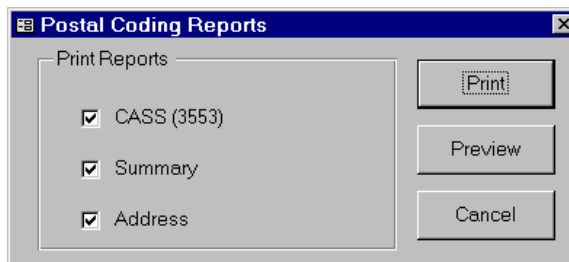

Figure 4-2
1. Select the **Address** checkbox in the Postal Coding Reports (Figure 4-2) or Presort Reports dialog box